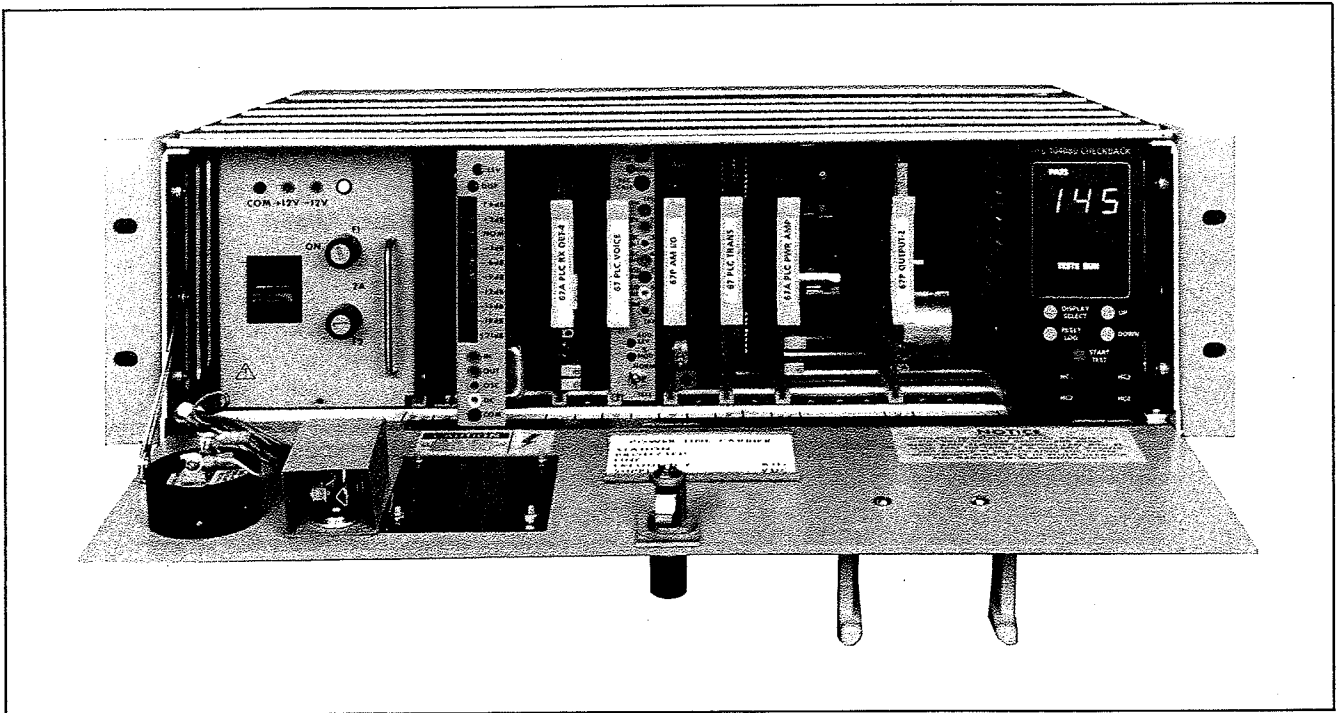

Figure 1-1. RFL 6785P Programmable AM Powerline Carrier System
This manual provides operation and maintenance information for the RFL 6785P Programmable On/Off Carrier System, shown in Figure 1-1. Included are an overall functional description of its purpose, a physical description and specifications, installation instructions, operating procedures, maintenance procedures, theory of operation, and replaceable parts information for all circuit card modules.
**f. Voice Channel Option.** As shown in Figure 1-1, a voice service channel can be added as an option. This allows the terminals at both ends of the protected line to be linked by two-way voice communications. All RFL 6785P chassis are pre-wired for the voice option; it can be easily installed in the field at any time.